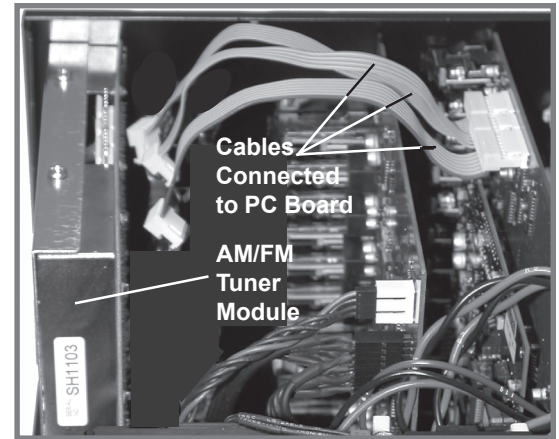

Figure 13
8. Locate the AM/FM Tuner Module. Refer to figure 13.
10. Orient the Module so the "F" Connector, that is at the bottom of the Module, will fit through the lower opening of the MHT Series Component Rear Panel (the cover was previously removed in Step 4) and the three PC Board Connectors are facing up. Refer to figures 13 and 14.
12. Attach the plug of the Six Conductor Ribbon Cable coming from the six pin Socket "J3" (as indicated on the MHT Series Component Main Audio PC Board) to the six pin PC Board Socket (J3) of the Module, which is located closest to the MHT Series Component Rear Panel. Refer to figure 13.